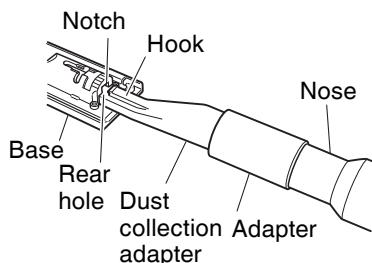

Fig. 17
- (5) Insert dust collection adapter into the rear hole of the base until the hook catches in the notch. (Fig. 17)
- (6) Press the hook to remove the dust collection adapter.